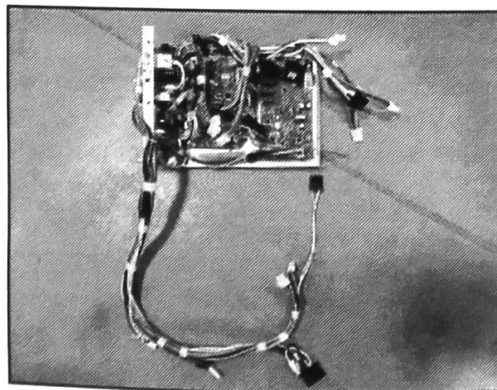
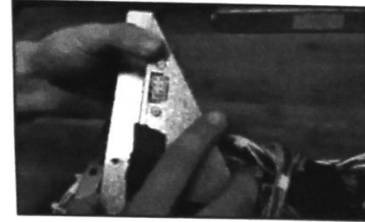

FIGURE 12
FIGURE 17
14. Unpack new HV assembly from the package it was shipped in. Upon unpacking, the new HV assembly will be similar to the image shown in Figure 12.
19. The switch plate assembly will need to be added to the new HV assembly shown in Figure 12. Start by reconnecting the testing connector from the new HV assembly. Push the testing connector back through the cutout. See Figure 17.